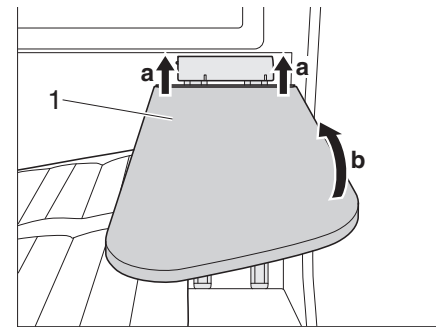

Fig. 34 Folding in the table-top
Folding in the table-top: ■ Lift the table top (Fig. 34,1) (a) and fold it up (b).
■ Push down the table-top (Fig. 34,1).